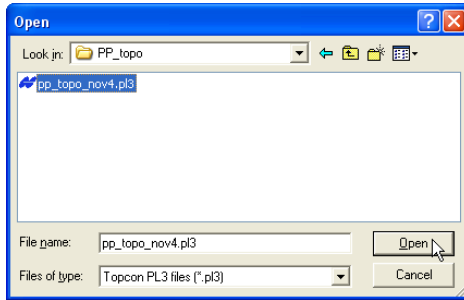

Figure 7-3. Open 3D Plane Surface File
2. On the *Open* dialog box, navigate to the location of the file, select the file type as 3D Plane (\*.pl3), select the desired file, and click **Open** (Figure 7-3).